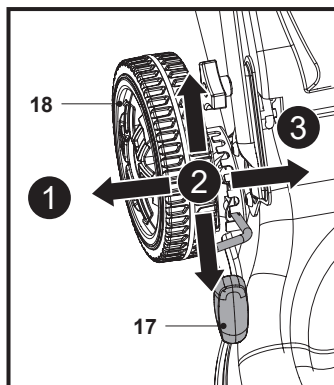

Fig. 13
1. Pull the lever for cutting height adjustment (17) towards the rear wheel (18) (Fig. 13, step 1) and hold it in position.
2. Move the lever for cutting height adjustment (17) forward or backward to the desired cutting height (Fig 13, step 2).
3. Release the lever for cutting height adjustment (17) and ensure it engages into place properly (Fig. 13 step 3).